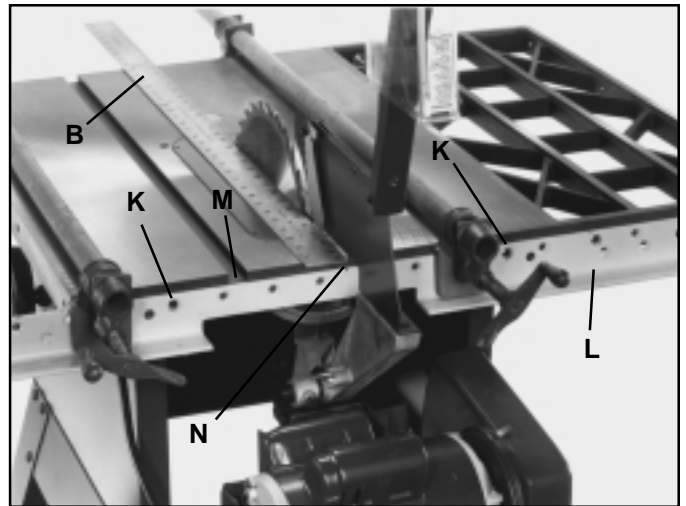

Fig. 12
10. Align the two non-countersunk hole (K) Fig. 12, of rear rail (L) with the two holes in rear edge of saw table and fasten rear rail to saw table as follows:
For Delta 10" Tilting Arbor Saws, 10" Contractor's Saws and 10" Contractor's II – Make certain the edge (M) Fig. 12, of the rail is below miter gage slots an equal distance as shown and fasten rear rail (L) to the saw using the two 3/8-24 x 1-1/4" long hex head screws, flat washers, lockwashers and hex nuts supplied.
11. Clamp rear rail (L) Fig. 12, to back of saw table using bar clamps, making certain left side of notch (N) in rail is aligned with right side of saw blade as shown, using straight edge (B). Also make sure edge (M) of rear rail is below miter gage slots an equal distance as shown.